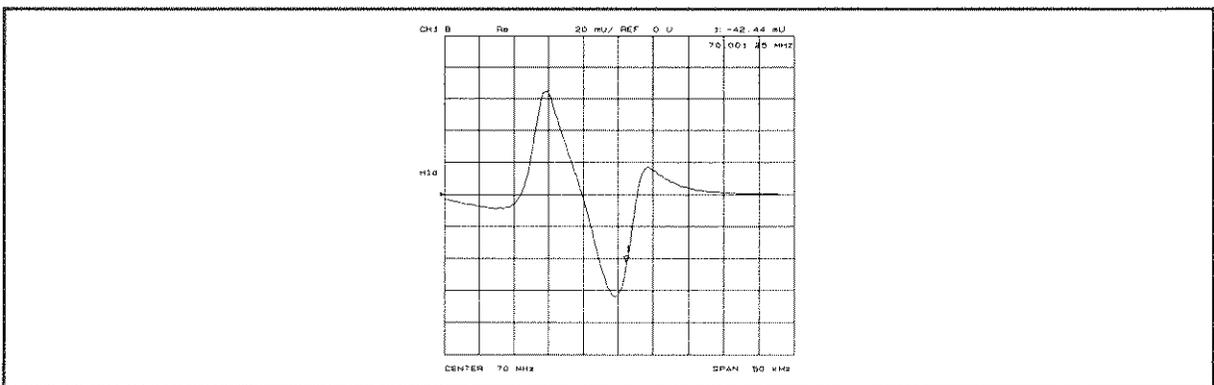

Figure 6-17. Real Format
**REAL** (REAL) displays only the real (resistive) portion of the measured data on a Cartesian format (Figure 6-17). This is similar to the linear magnitude format, but can show both positive and negative values. It is primarily used to display a Bdc input voltage signal.